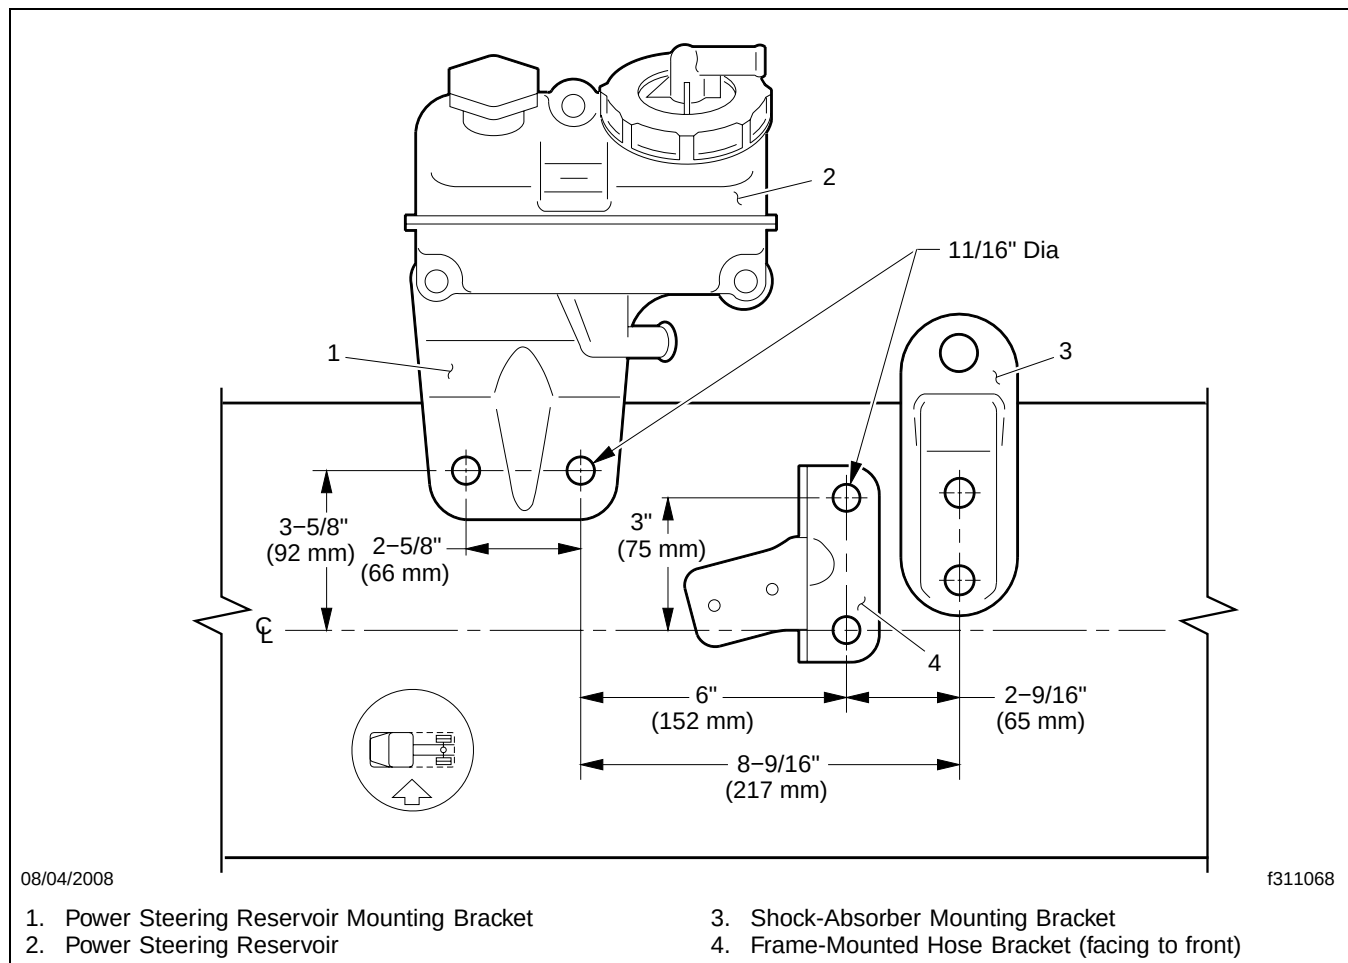

Fig. 3, Drilling and Mounting Locations
15. Mark the layout of the holes on the frame, using the drilling diagram. See **Fig. 3**.
38. Install the frame-mounted hose bracket, as shown in **Fig. 3**.